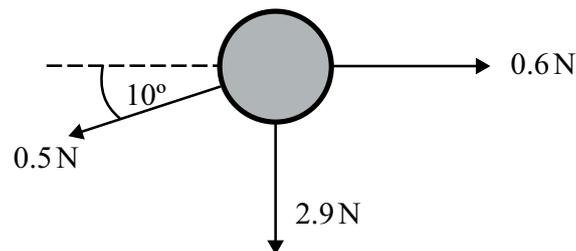

Fig. 3
- (b) At a particular time while a ball is travelling through the air it is acted upon by three forces as shown in Fig. 3.